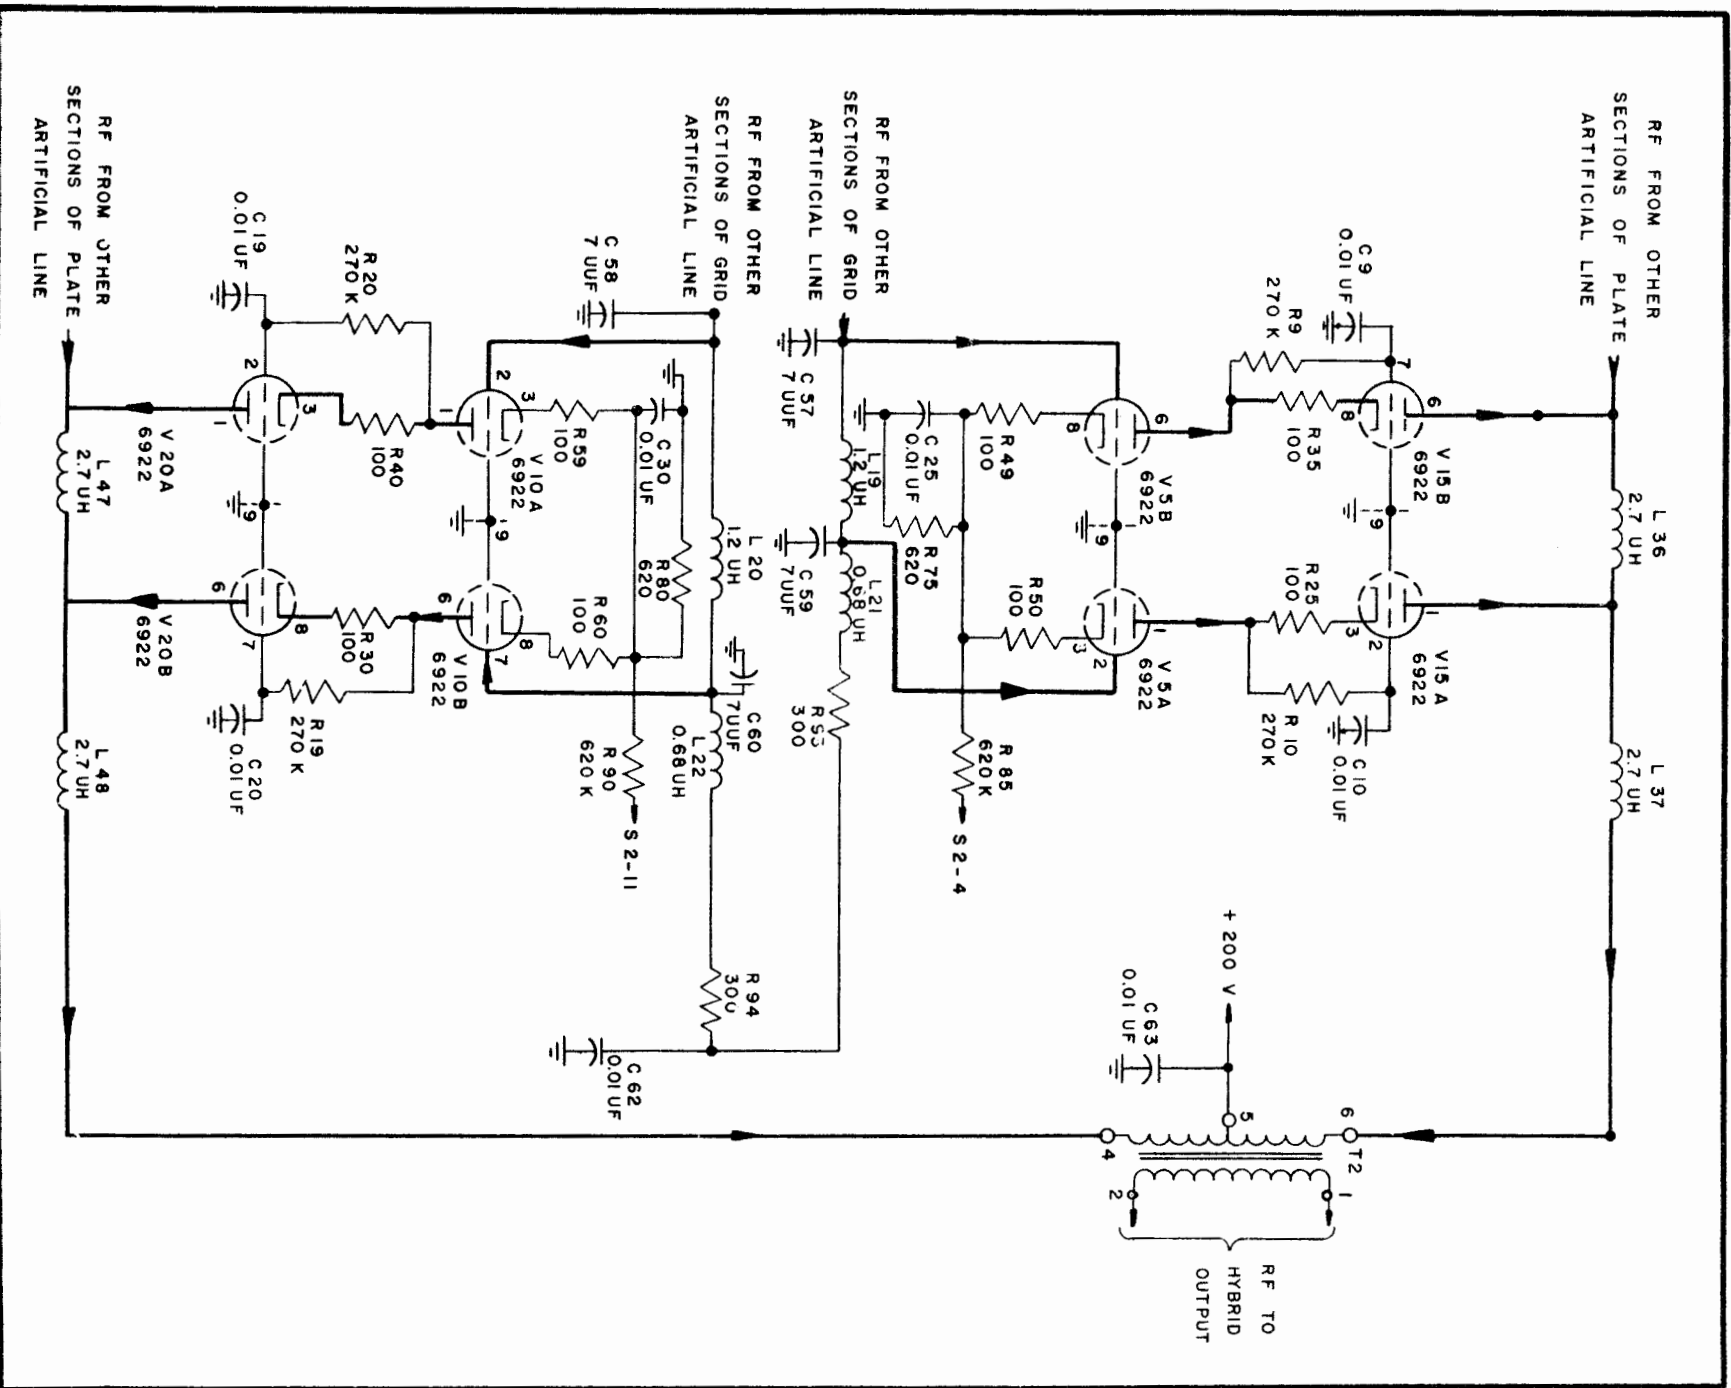

Figure 4-2. Antenna Coupler CU-872A/U, Distributed Amplifier, Simplified Schematic Diagram.
*c.* Since the circuits of the five push-pull distributed amplifier sections shown in figure 6-1 are identical, only the section consisting of tubes V5, V15, V10, V20 and their associated circuits will be discussed. A simplified schematic of the fifth section of the distributed amplifier is shown in figure 4-2.